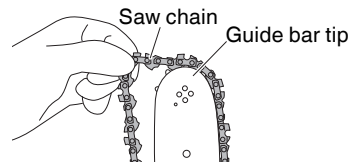

Fig. 5
3. Engaging the new saw chain in the sprocket (Figs. 5, 6)